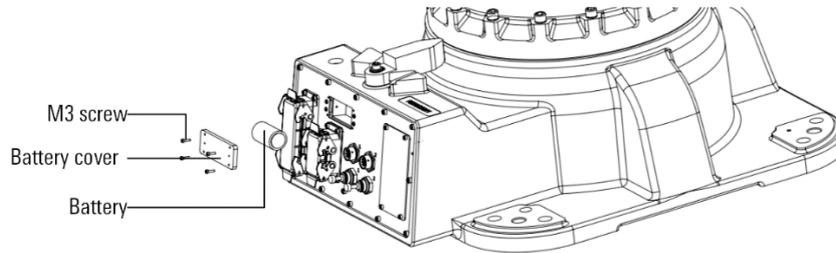

Figure 12-7 Replacing the battery
- Step3. Remove the electrical installation board of the manipulator and remove the battery box, as shown in Figure 12-7.